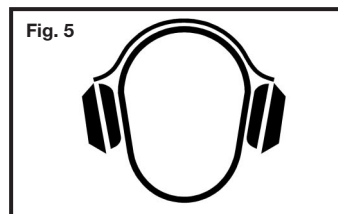

Fig. 5
**7. Wear ear protection to safe-guard against possible hearing loss.** Ear protection equipment must conform to ANSI S3.19 requirements. Fig. 5.